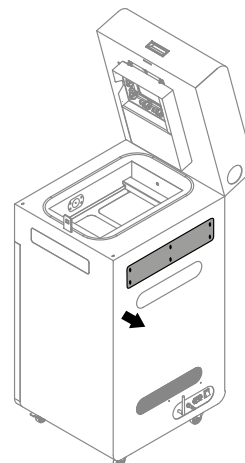

Fig. 13.77 Remove the access panel.
9. Remove the access panel on the back side of the printer (fig. 13.77).